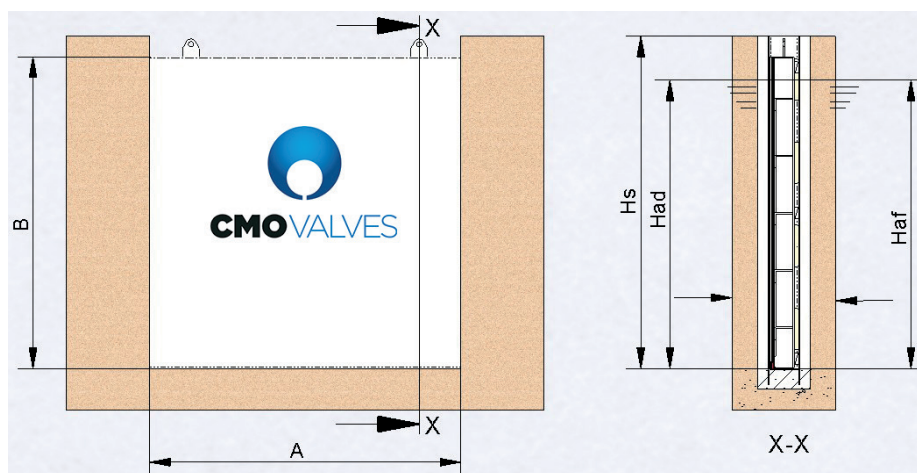

Fig. 11
In order to define an **AT** cofferdam gate, we need to know the width and height of the channel or conduit, the fluid direction and the fluid load on each side of the gate. It is also necessary to know the height of the floor ( $H_s$ ) and whether it is a 3-sided seal (fig. 11) or 4-sided seal (fig. 12).
Below is a description of each level (fig. 11 and 12).
- **Level A:** This is used to define the width of the channel (fig. 11) or conduit (fig. 12).
- **Level B:** This is used to define the height of the gate (fig. 11) or conduit (fig. 12).